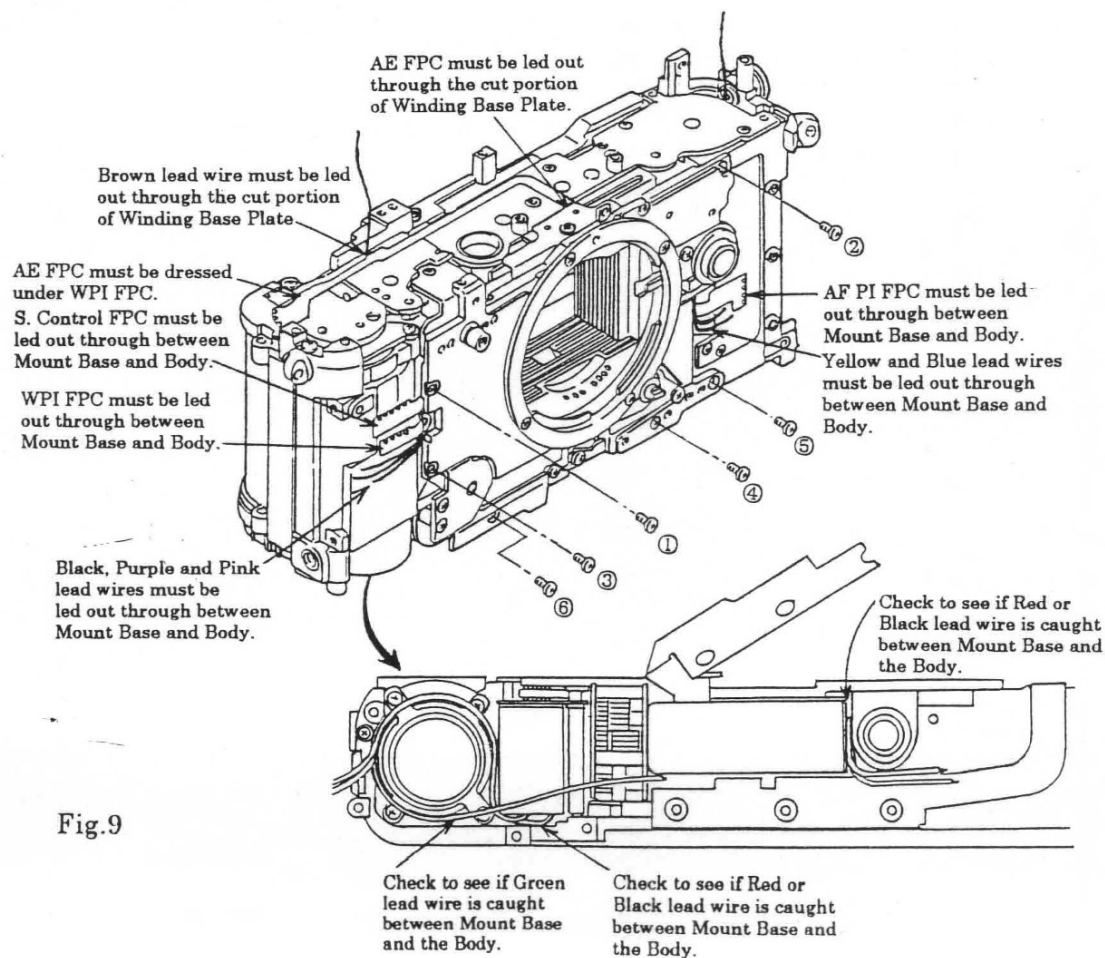

Fig.9
- c) Tighten the Mount Base Ass'y Setscrews in the order of ① to ⑥ as shown in Fig. 9.
* After installing the Mount Base Ass'y in the Body, make certain that the lead wires and FPCs are dressed as shown in Fig. 9.